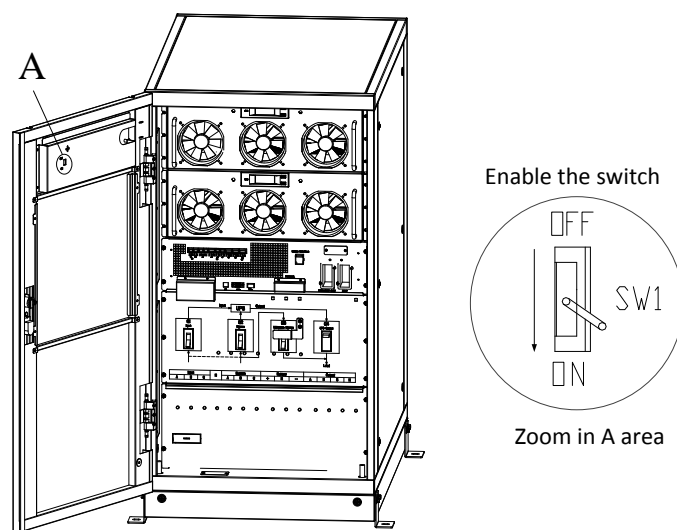

Fig. 4-2 Enable the switch
2. Press and hold the BYP key on the operator control panel for longer than two seconds and the system transfers to bypass mode. This needs to enable the switch behind the front door. As shown in Fig. 4-2.